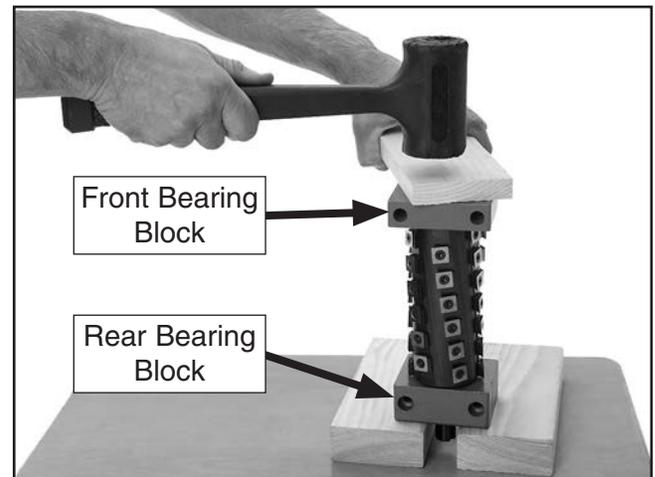

Figure 7. Seating rear bearing block onto helical cutterhead.
13. Stand cutterhead upright between two 8" 2x4 blocks, then use a piece of scrap wood and a dead blow hammer to seat cutterhead into bearing blocks, as shown in **Figure 7**.